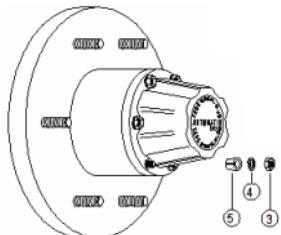

Fig. 4
9. Fix body (16) with original tapped washers (5), lock washers (4) and nuts (3) (**Fig. 4**) tightening alternatively with **25 - 32 Nm (2,8 - 3,5 kgf.m or 20 - 25 lb.ft)**.